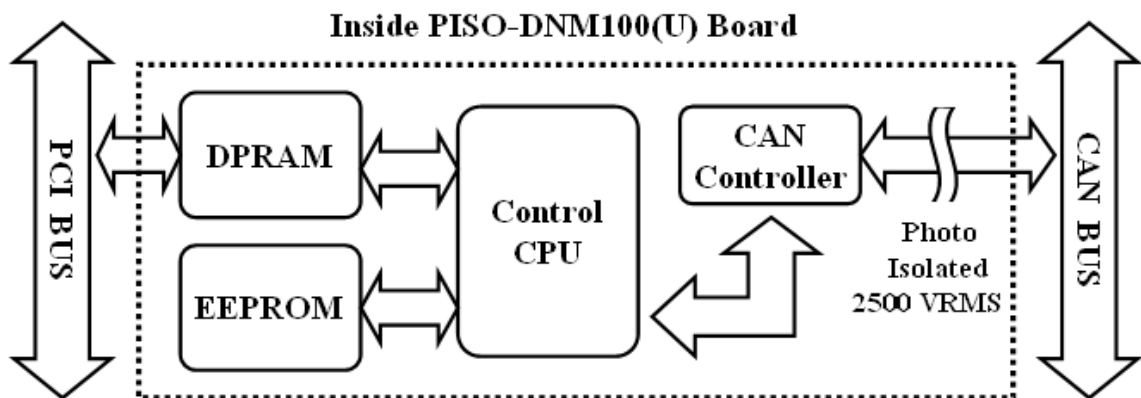

Figure 1.8 Block diagram of the PISO-DNM100(U)
The figure 1.8 shows the block diagram of the PISO-DNM100(U) board.